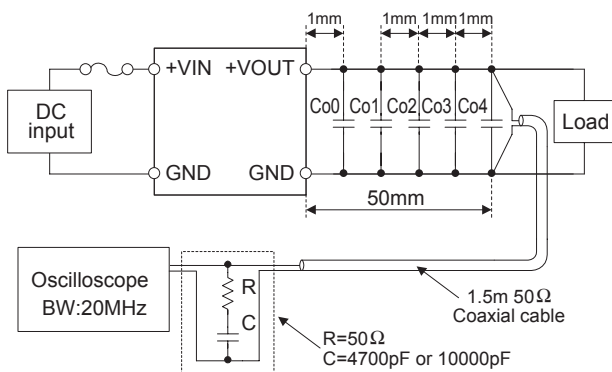

Fig.3.4 Measuring method of Ripple and Ripple Noise
■ Ripple and Ripple Noise are measured, as shown in the Fig.3.4. C_{o0} , C_{o1} , C_{o2} and C_{o3} is shown in Table 3.4.